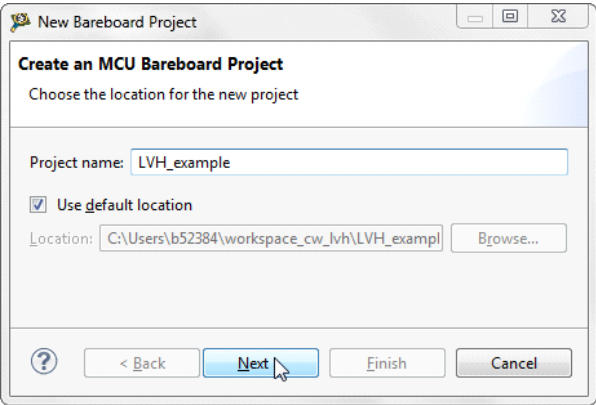

Figure 9. Create an MCU bare-board project
1. Create and name an MCU Bareboard project (see Figure 9).